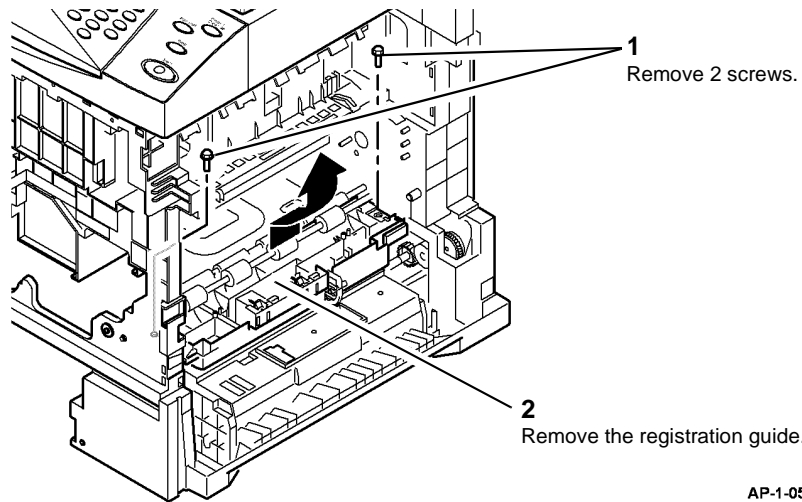

Figure 6 Registration Guide Removal
15. Remove the registration guide, Figure 6.